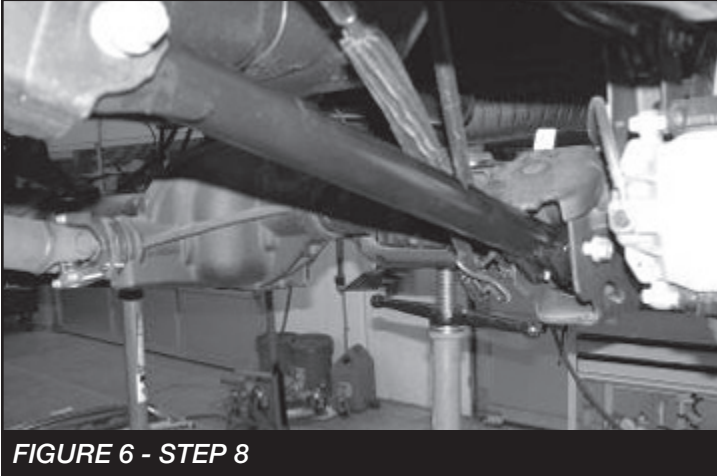

FIGURE 6 - STEP 8
8. Install the new Lower Link Arms into the factory rear axle mounts with the factory hardware. Then attach the arm to the frame mounts also with the factory hardware. Leave loose at this time. **SEE FIGURE 6**